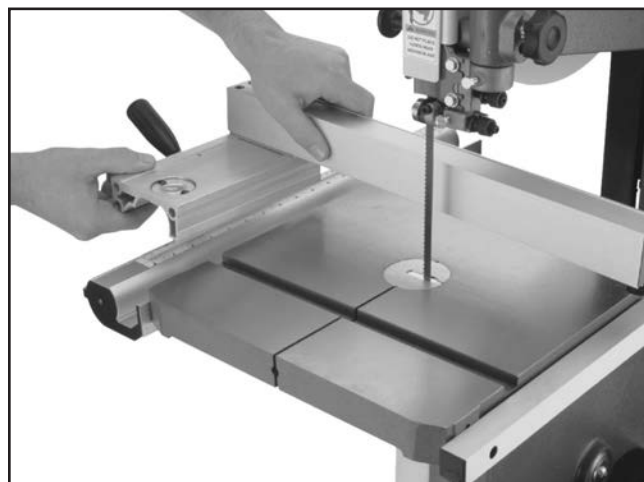

Figure 18. Installing fence onto rails.
15. Pull the fence handle up and place the fence on the front fence rail, as shown in **Figure 18**.